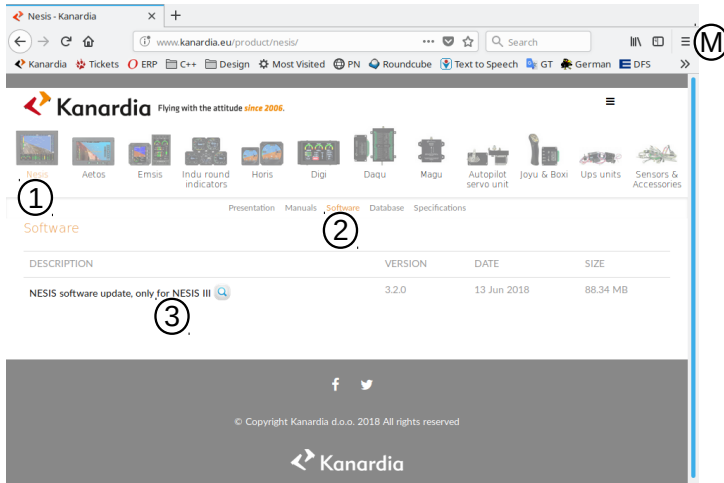

Figure 67: Illustration of the Nesis software download page. Usually only latest update is available.
- ① Open the home page and select *Nesis* icon on the top. This leads to Nesis specific page.
- ② Select *Software* next. This opens a page with Nesis specific software. An example is shown on Figure 67.
- ③ Click on the link to start download process of selected software file. Before downloading the software, a window appears asking for your email address. This is optional. Download will be completed also if address is not given.
1. Click on the \equiv menu symbol. See label (M) on Figure 67.